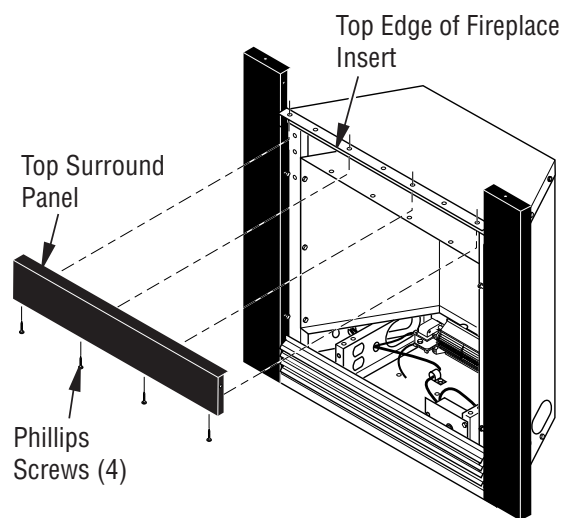

Figure 8 - Attaching Top Surround Panel
1. Place top surround panel at top of fireplace insert. Bottom edge of panel will slide under top edge of insert. Align top panel screw holes with those in insert. Install four #8 Phillips screws, do not tighten. See **Figure 8**.